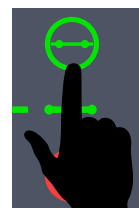

Figure 56. Close Contactor Button
- Press the **Close Contactor button** (Figure 56) on the digital controller.